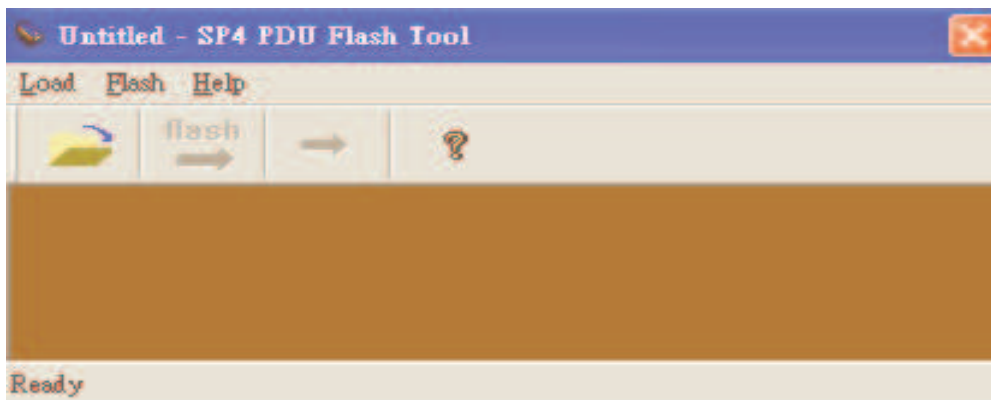

Figure 1. Initial window.
Step 3. Execute “MCUFlash.exe”, and you will see the window as Figure 1.